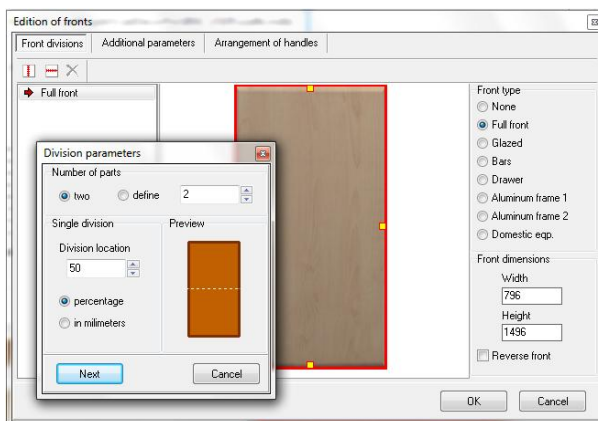

Fig. 185 – front division parameters
- this is why if you want to divide the initial front into many parts of different size, you have to make these divisions one after another (Fig. 185 and 186);